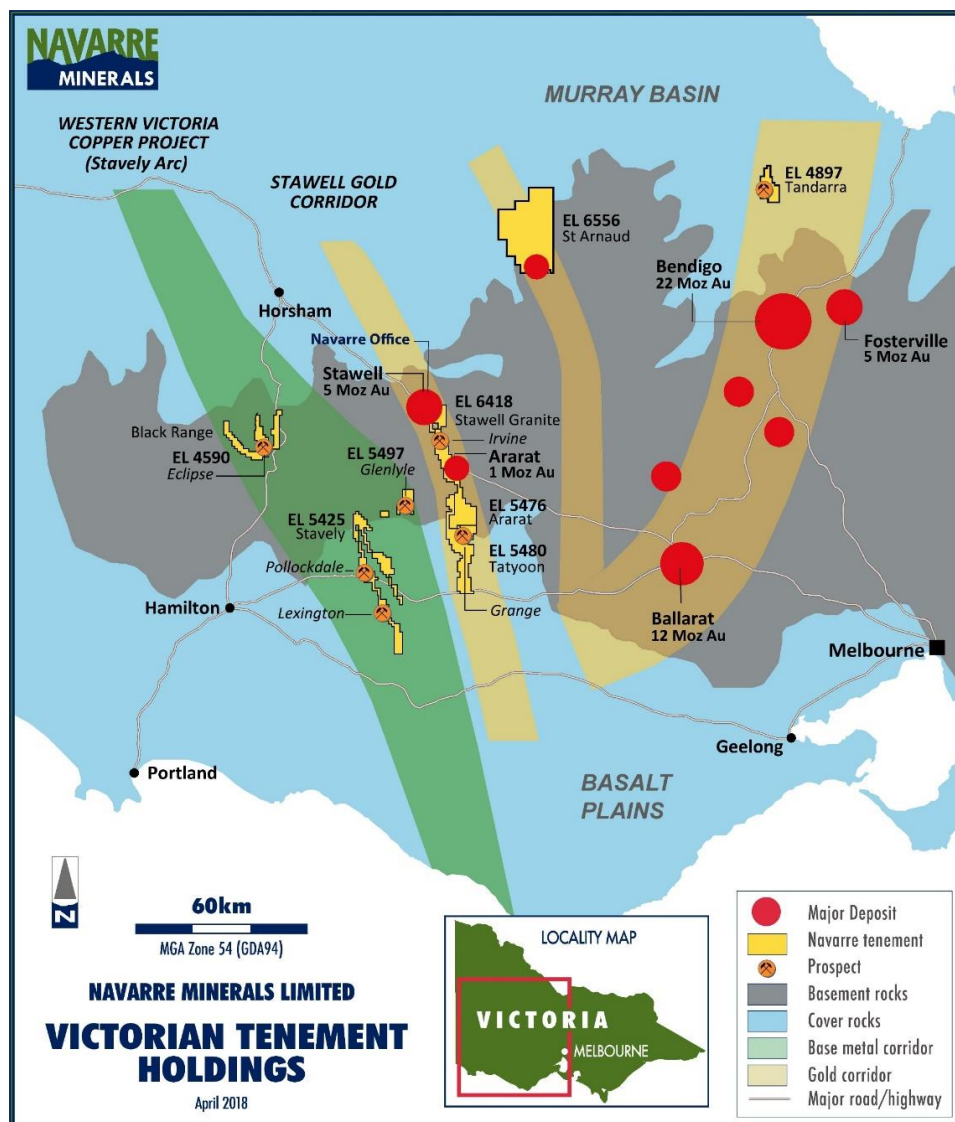

Figure 1: Map showing location of Navarre's Victorian tenement holdings
Navarre Minerals Limited (**Navarre** or **the Company**; **ASX: NML**) is pleased to announce assay results for the first two of four lines of a recently completed air-core (AC) drilling program across several previously undrilled targets at its 100%-owned St Arnaud Gold Project, 250km northwest of Melbourne in Victoria (Figure 1).
Navarre believes the St Arnaud Gold Project exhibits several similarities to the world class Fosterville Project and is utilising the extensive knowledge base of the Fosterville gold deposit plus the methodologies developed and applied in the exploration of Navarre's Tandarra gold discovery in western Victoria (Figure 1) in its exploration approach at the St Arnaud Gold Project.
1. Ongoing **10,000 metres of AC, RC and diamond core (DD) drilling** at the 100%-owned **Irvine Gold Project (EL 5476)**, targeting Stawell-style gold mineralisation on the flanks of the 9km long Irvine basalt dome, including infill and expansion drilling at Resolution and Adventure lodes (see ASX releases of 1, 10 & 28 May 2018);
2. Completion of **6,500 metres of first-pass AC drilling testing in 80 holes** for potential Fosterville-style high-grade gold mineralisation in four drill traverses at the **St Arnaud Gold Project (EL 6556)** (100% Navarre), where the historic St Arnaud Goldfield is believed to continue north under shallow Murray Basin cover (blue area in Figure 1);